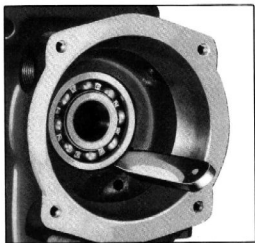

Fig. 6—Removing Rear Bearing
15. Expand the rear bearing lock ring into the case with the special expanding tool, J-935. This raises the lock ring from the groove in the bearing and the bearing may be removed by lightly tapping the outer race toward the inside of the case, Fig. 6.
2. Start the bearing in from the rear, and use the lock ring expanding tool, J 935, to expand the ring into the case. Refer to Fig. 6.